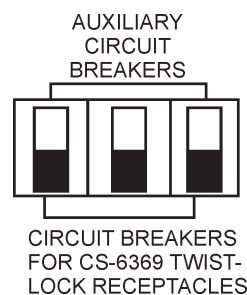

Figure 36. Auxiliary Circuit Breakers (OFF)
3. Place the three **auxiliary** circuit breakers (Figure 36) in the **OFF** position prior to starting the engine.
1. Place the three **auxiliary** circuit breakers in the **OFF** position (Figure 36)